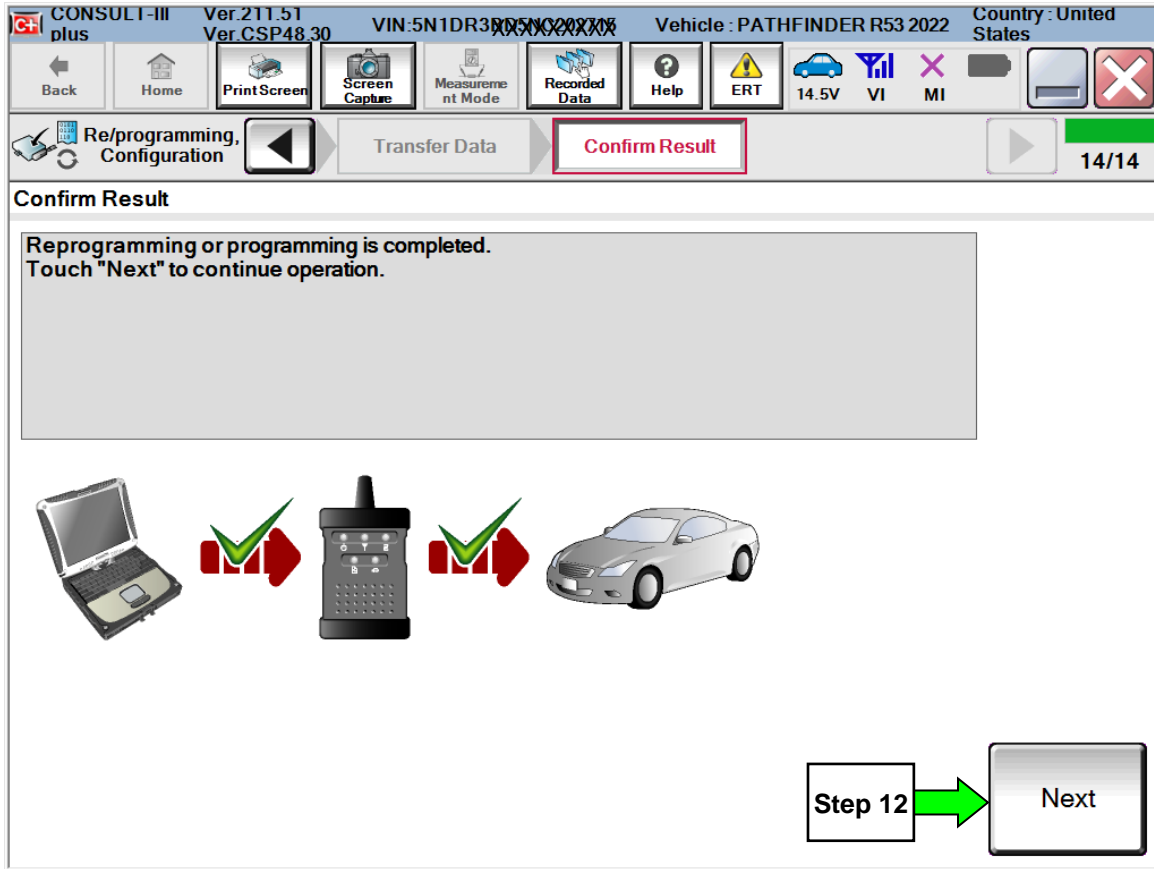

Figure 5
10. When the screen in Figure 5 displays, reprogramming is complete.
NOTE: If the screen in Figure 5 does **not** display (reprogramming did not complete), refer to the ECM Recovery information on Page 9.